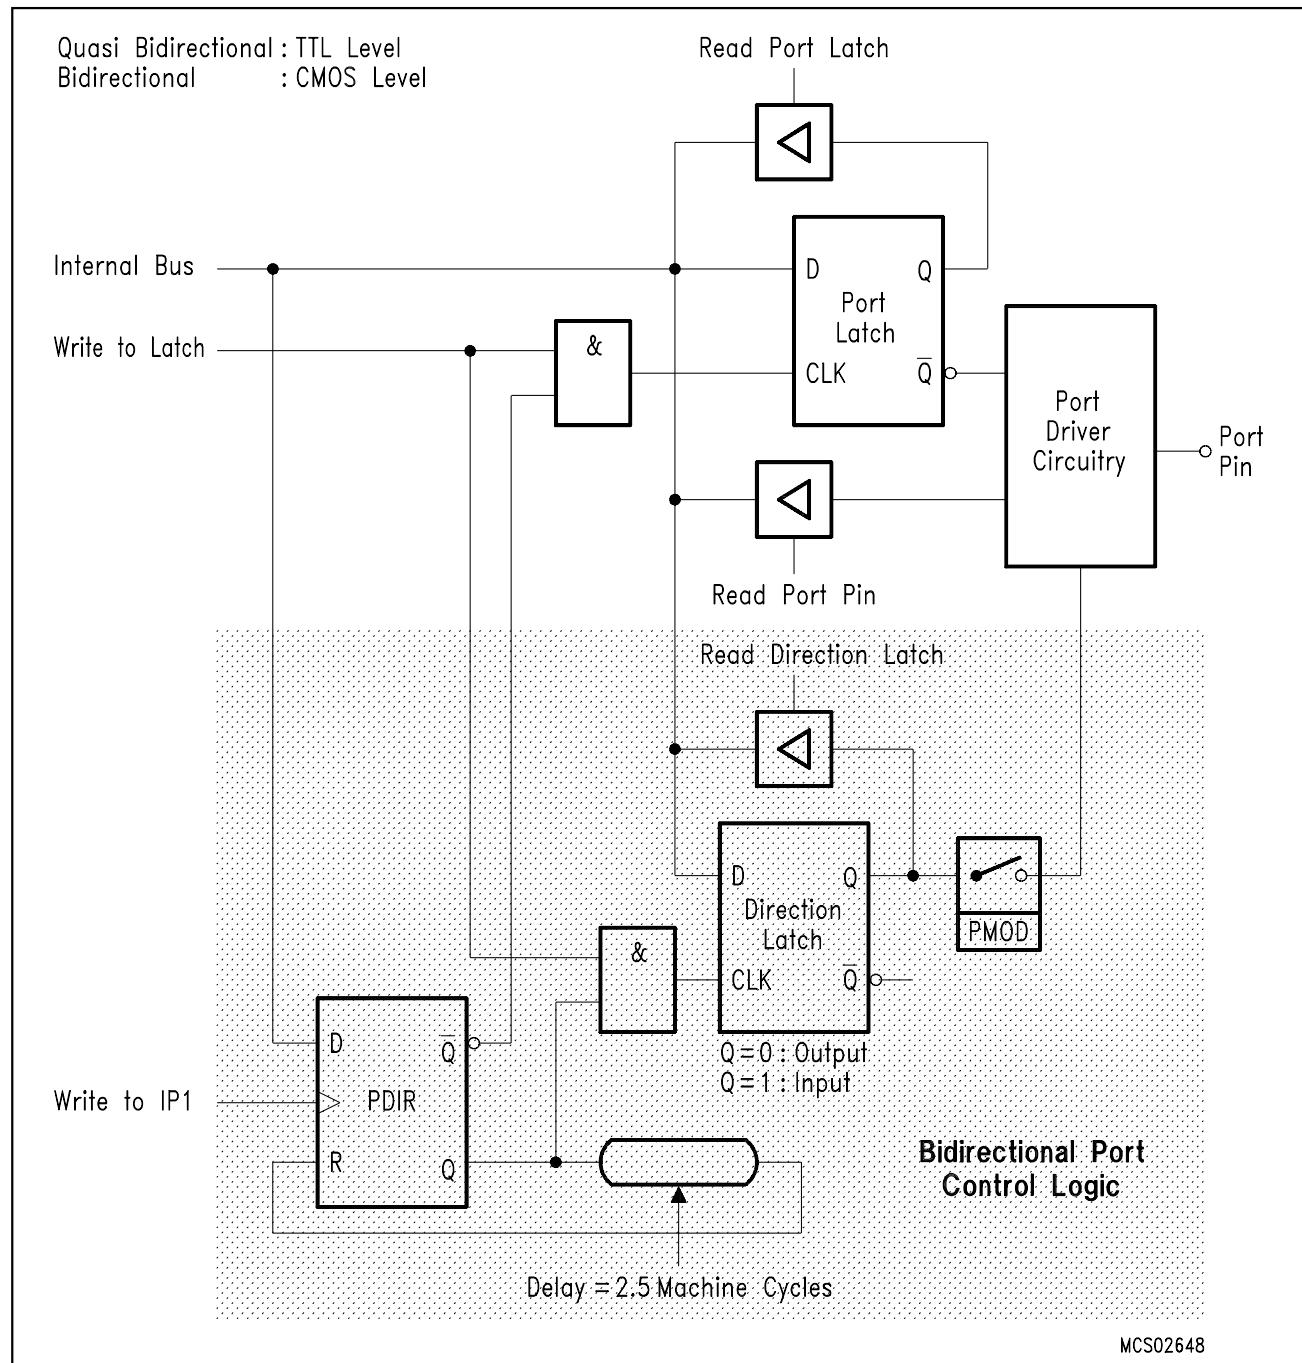
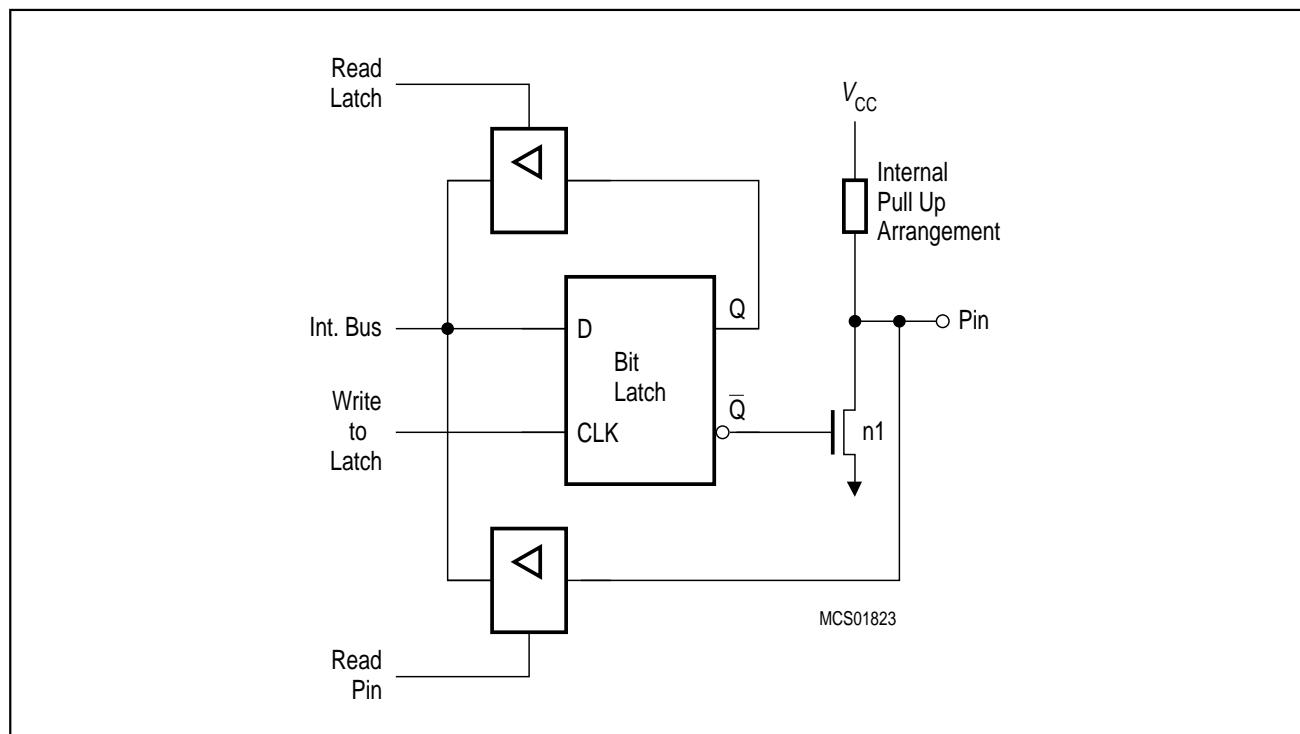
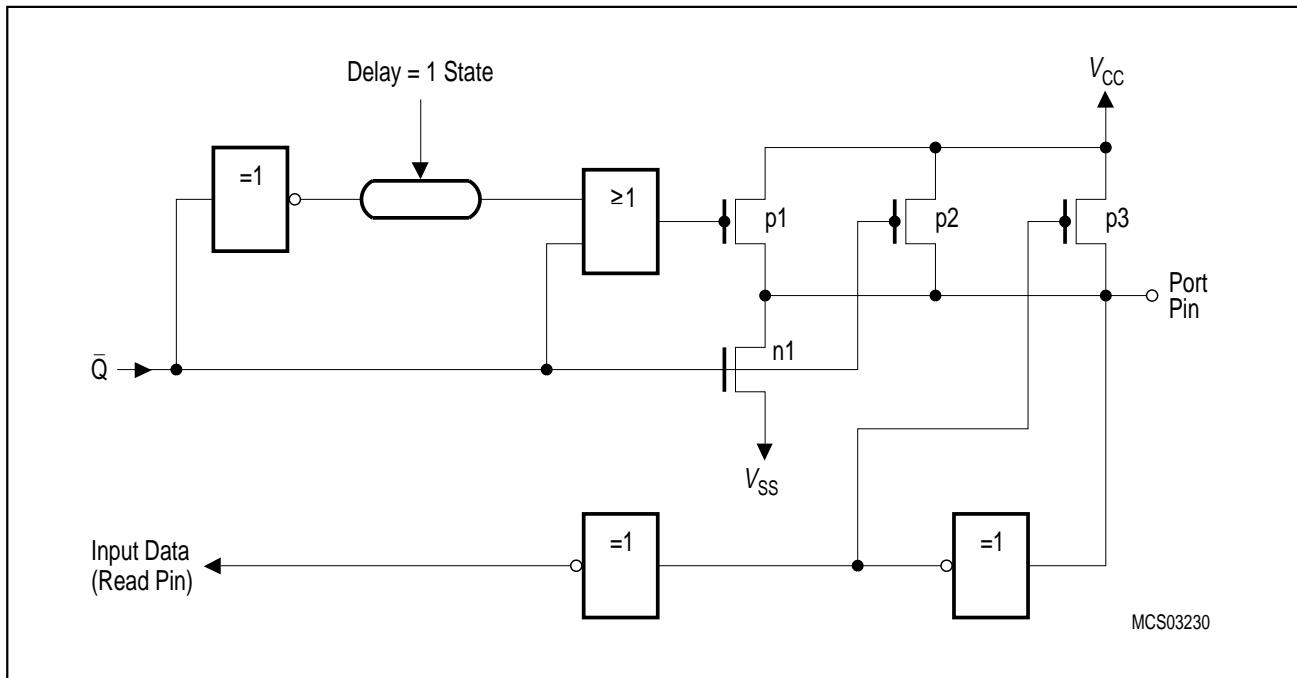

Figure 6-1
Figure 6-3
Figure 6-4
Figure 6-1 shows a functional diagram of a typical bit latch and I/O buffer, which is the core of each of the 8 digital I/O-ports. The bit latch (one bit in the port's SFR) is represented as a type-D flip-flop, which will clock in a value from the internal bus in response to a “write-to-latch” signal from the CPU. The Q output of the flip-flop is placed on the internal bus in response to a “read-latch” signal from the CPU. The level of the port pin self is placed on the internal bus in response to a “read-pin” signal from the CPU. Some instructions that read from a port activate the “read-port-latch” signal, while others activate the “read-port-pin” signal.
The shaded area in **figure 6-1** shows the control logic in the C509-L, which has been added to the functionality of the standard 8051 digital I/O port structure. This control logic is used to provide an additional bidirectional port structure with CMOS voltage levels.
The basic quasi-bidirectional port structure as shown in the upper part of the schematics of **figure 6-1** provides a port driver circuit which is build up by an internal pullup FET as shown in **figure 6-3**. Each I/O line can be used independently as an input or output. To be used as an input, the port bit stored in the bit latch must contain a one (1) (that means for **figure 6-3**: $Q=0$), which turns off the output driver FET n1. Then, for ports 1 to 6 and 9, the pin is pulled high by the internal pullups, but can be pulled low by an external source. When externally pulled low the port pins source current (I_{IL} or I_{TL}). For this reason these ports are sometimes called “quasi-bidirectional”.
In fact, the pullups mentioned before and included in **figure 6-3** are pullup arrangements as shown in **figure 6-4**. One n-channel pulldown FET and three pullup FETs are used:
Ports 6.3 through 6.7 have no alternate functions as described above. Therefore, the port circuitry can do without the switching capability between alternate function and normal I/O operation. This more simple circuitry is shown as basic port structure in **figure 6-3**.